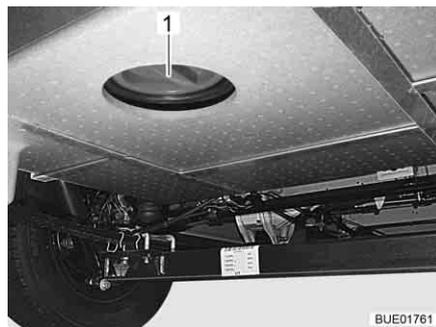

Fig. 257 Cleaning opening of the waste water tank
- Open the cleaning opening (Fig. 257, 1) on the waste water tank and the drain cock.